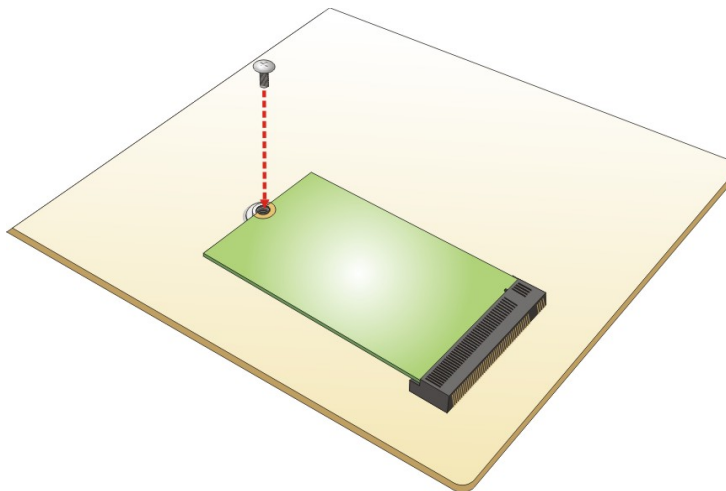

Figure 4-3: Securing the M.2 Module
Step 3: Secure the M.2 module with an M2*3 retention screw (**Figure 4-3**).